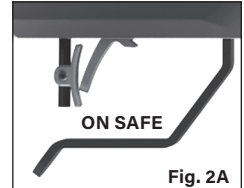

Fig. 2A
- Locate the safety on the airgun directly in front of the trigger (Fig. 2A).